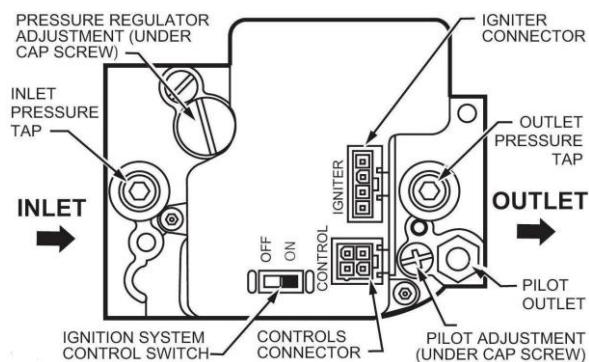

Figure 3
NOTE: Leave the SmartValve™ switch in the ON position, **Figure 3**. Turn off gas supply at the appliance shut-off valve.
3. Disconnect the appliance wiring (Figure 3, CONTROLS CONNECTOR) from the SmartValve™.
2. Connect the Test Harness between the valve control socket, Figure 3, and the HSI element/flame rod.